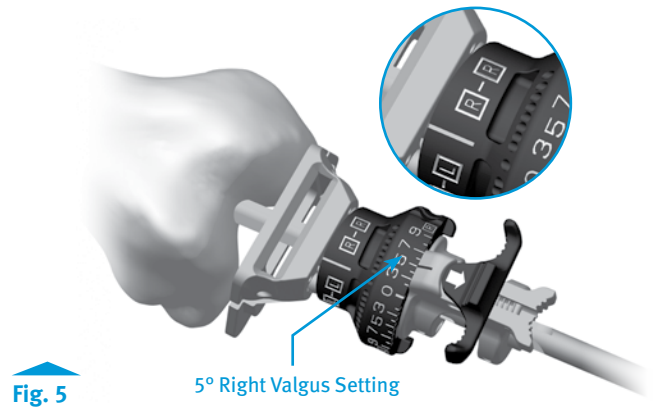

Fig. 5
- Place the Femoral Valgus Alignment Guide on the IM Rod against the most prominent condyle and confirm the desired valgus setting (Fig. 5).